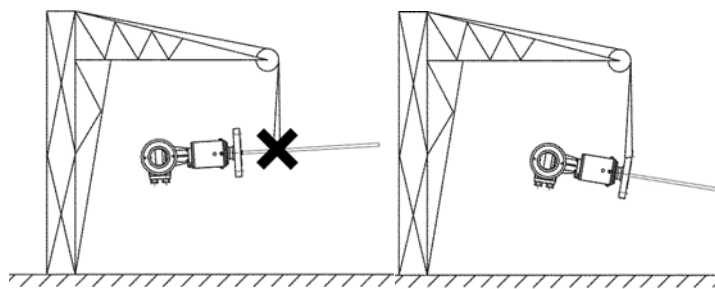

Figure 5
**Handling The Sensor:** ⚠ The Flexar® sensor will normally weigh between approximately 25lbs (11kg) and 77lbs (35kg). Carry the sensor using two people, lifting it by the process connection and supporting the probe. Lifting equipment (Figure 5) may also be used, but no attempt should be made to lift the device by the probe itself.